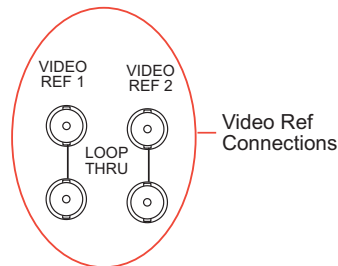

Figure 2-30. Video Reference Connections (Rear View)
- 1 Locate the video reference connections on the rear of the router, as shown in Figure 2-30. Video reference connections are labeled 'VIDEO REF 1' and 'VIDEO REF 2'.